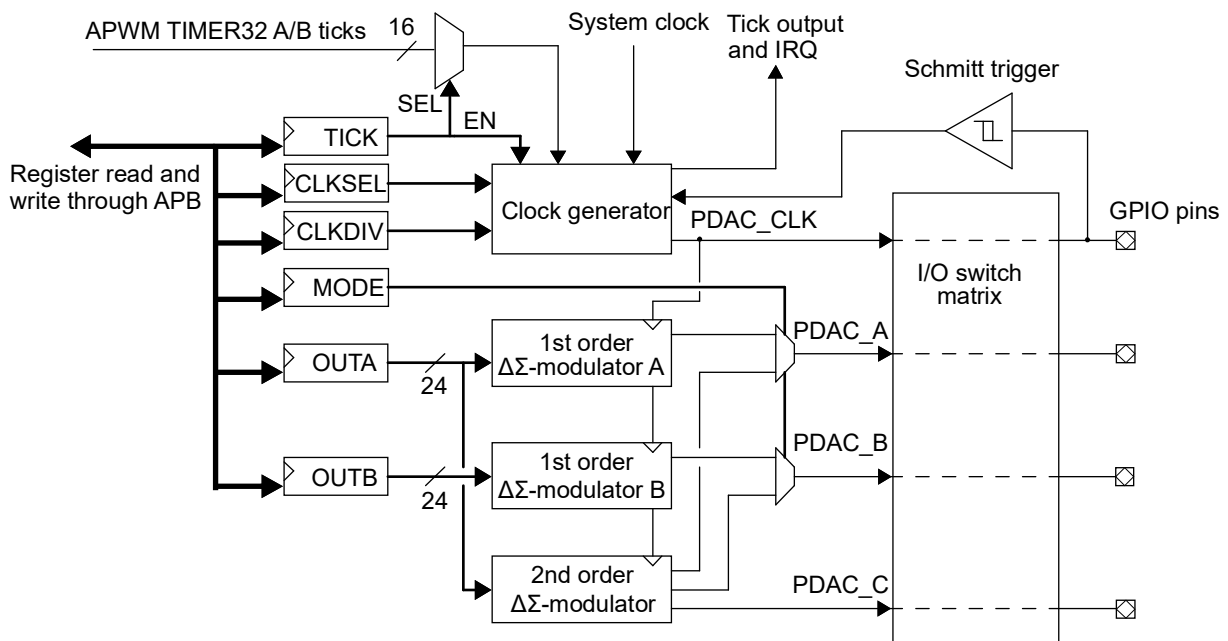

Figure 142. Block diagram of an APWMDAC unit.
APWMDAC provides a digital modulated output signal, to be low-pass (LP) filtered on PCB. It can work as a single second-order modulator or as two independent first-order delta sigma modulators. It can run either from an external clock input on a GPIO pin or from an internal clock generated by division of the system clock. The modulator input value can be updated continuously from RTAs or the main LEON3FT. A block diagram of the APWMDAC is shown in Figure 142.